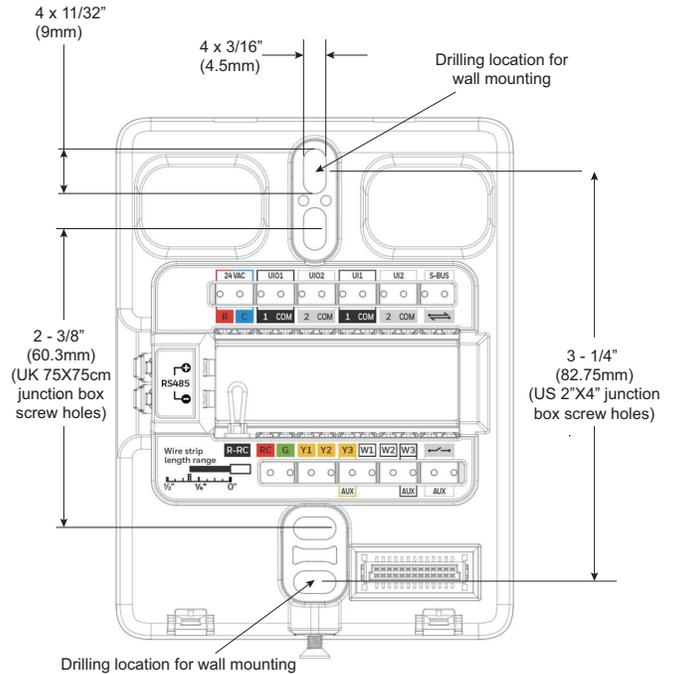

Fig. 5. Wallplate drilling locations
3. Pull the wires through the wiring opening of the wallplate, and position the wallplate along the junction box to align the mounting holes. For junction box screw holes, refer to Fig. 5.